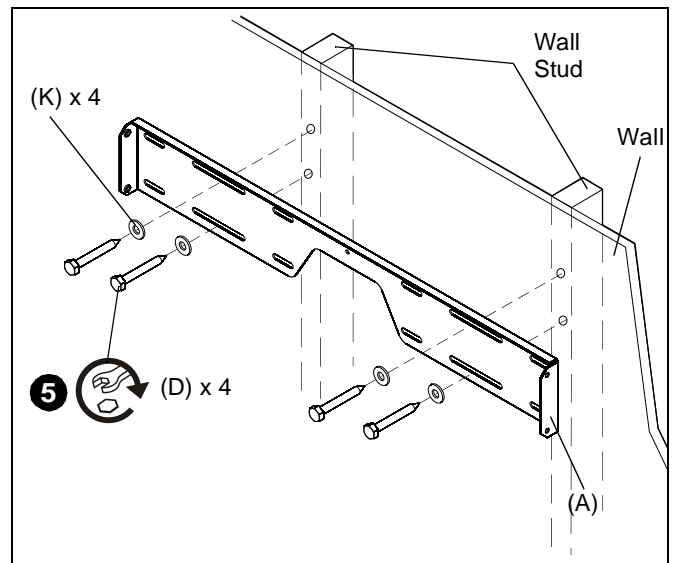

Figure 2
5. Fasten wall bracket to wall studs using four 1/4-20 x 2" lag screws (D) and four 1/4" flat washers (K). (See Figure 2)